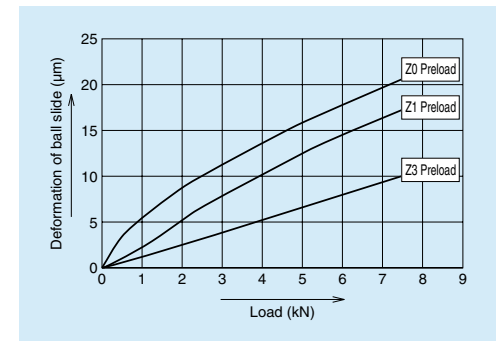

Fig. 3.3 Rigidity of NH35, downward direction load (example)
- Fig. 3.3 shows the relationship between the ball slide deformation and the external vertical load under a specified preload. NH35 is used as an example.